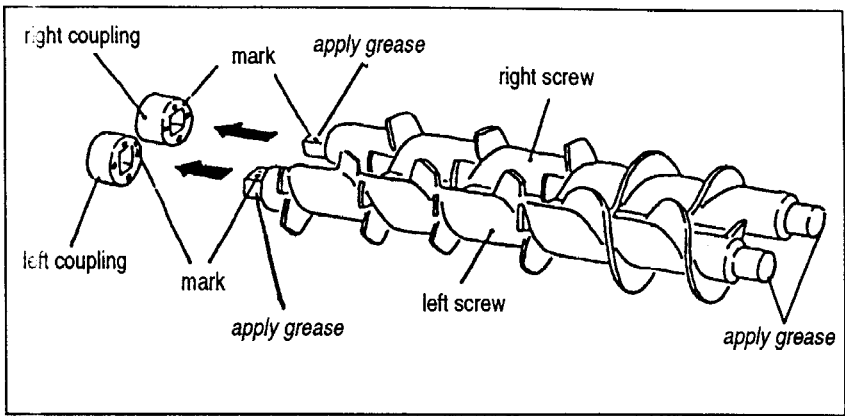

fig. 3
2. Install screws. Match "01" and "02" marks engraved on couplings and screw ends (fig. 3). Arrange right and left screws correctly and insert simultaneously.